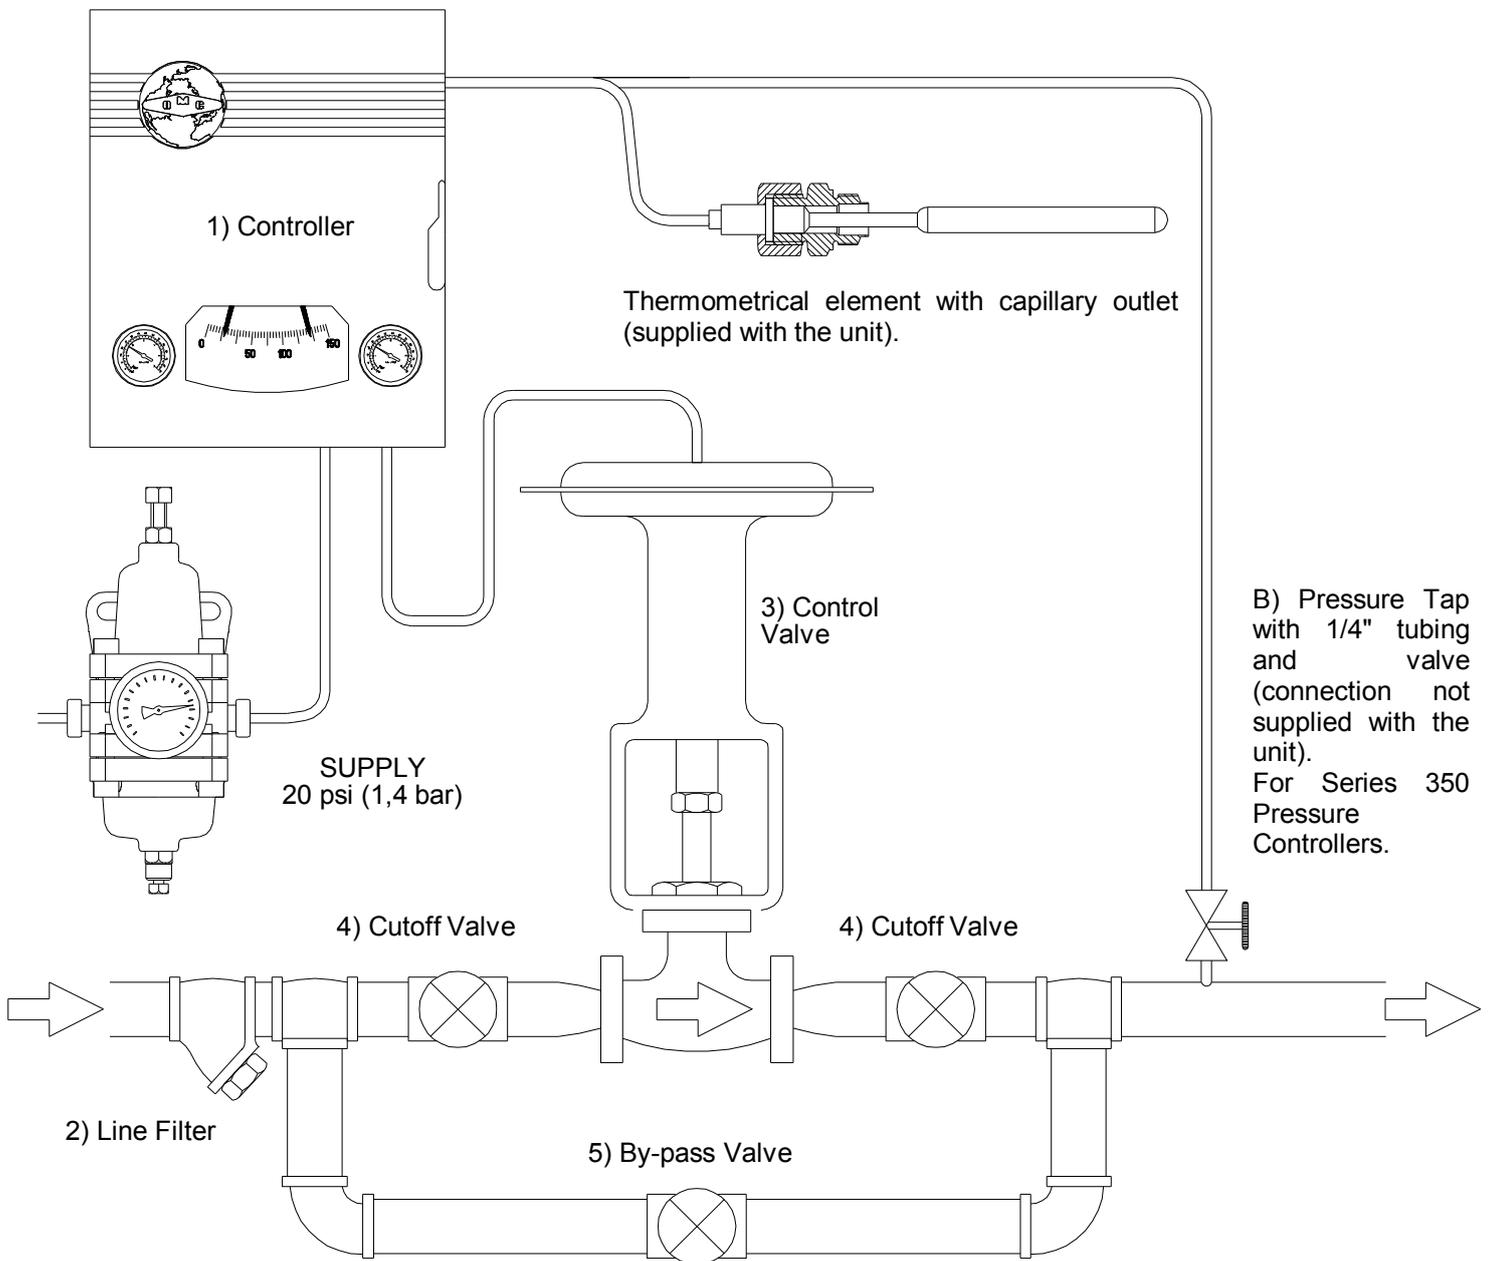

Fig. 2.2.1 "PNEUMATIC CONTROL VALVE INSTALLATION"
## 2.2. PNEUMATIC CONTROL VALVE INSTALLATION (Fig. 2.2.1)
C - Completely open the cutoff valves situated upstream and downstream to the control valve. Make sure that the bypass valve is closed (see Fig. 2.2.1).
**B** - Use the set point knob (25) to adjust the red indicator (22) to the set point.
**C** - Rotate the knob (10) to adjust the proportional band to a 0% width and check the selected action of the instrument (DIRECT= the output signal increases as the variable increases; REVERSE= the output signal increases as the variable decreases).
**D** - Make sure that the bypass valve (5) supplied with the pneumatic valve (3) is completely closed and that the downstream cutoff valve (4) is fully open (see Fig. 2.2.1).
**E** - Open the cutoff valve (4) situated upstream to the pneumatic valve slowly and completely (see Fig. 2.2.1).
**C** - Rotate the knob (10) to adjust the proportional band to a 20% width and check the selected action of the instrument (DIRECT= the output signal increases as the variable increases; REVERSE= the output signal increases as the variable decreases).
**H** - The black indicator may not coincide with the red indicator at the setpoint. To eliminate the difference, slightly turn the manual reset knob (14).
**E** - Make sure that the bypass valve (5) supplied with the pneumatic valve (3) is completely closed and that the downstream cutoff valve (4) is fully open (see Fig. 2.2.1).
**F** - Open the cutoff valve (4) situated upstream to the pneumatic valve slowly and completely (see Fig. 2.2.1).
**I** - The black indicator may not coincide with the red indicator at the setpoint. To eliminate the difference, gradually open the integral action valve until the indicators coincide and initiate a deliberate disruption by rapidly moving the red indicator from the setpoint. If the black indicator starts fluctuating, slowly close the valve (48) until stability is restored and the indicators coincide. Initiate a new disruption and check the fluctuation of the black indicator. Turn the knob (48) again, if necessary.
**C** - Open the integral action valve by rotating the knob (48) clockwise. Move the red indicator (22) by rotating the set-point knob (25) to adjust the output signal manometer (21) to 9 psi. Completely close the valve by rotating counterclockwise the knob (48) to the lock.
**D** - Use the set point knob (25) to adjust the red indicator (22) to the setpoint.
**E** - Rotate the knob (10) to adjust the proportional band to a 20% width and check the selected action of the instrument (DIRECT= the output signal increases as the variable increases; REVERSE= the output signal increases as the variable decreases).
**F** - Make sure that the bypass valve (5) supplied with the pneumatic valve (3) is completely closed and that the downstream cutoff valve (4) is fully open (see Fig. 2.2.1).
**G** - Open the cutoff valve (4) situated upstream to the pneumatic valve slowly and completely (see Fig. 2.2.1).
**L** - The black indicator may not coincide with the red indicator at the setpoint. To eliminate the difference, gradually open the valve (48) until the indicators coincide and initiate a deliberate disruption by rapidly moving the red indicator from the setpoint. If the black indicator starts fluctuating, slowly close the valve by turning the knob (48) until stability is restored and the indicators coincide. Initiate a new disruption and check the fluctuation of the black indicator: if necessary, adjust the valve again by turning the knob (48). Perform the adjustment one more time. If, during the adjustment, the manometer (21) indicates values inferior to 4 psi or superior to 12 psi, gradually close the derivative action valve by rotating the knob (53) until the reading of the manometer during the adjustment operation is  $4 \div 12$  psi.